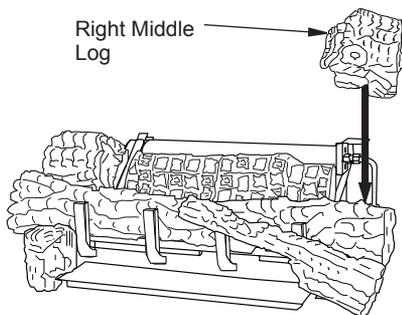

Figure 29 - Installing Right Middle Log
- The right middle log has a groove on the bottom to sit on the chassis and has to sit on the tab on the back of the right front. The right middle log should have a recess area that fits around the ramp log as shown in Figure 29.